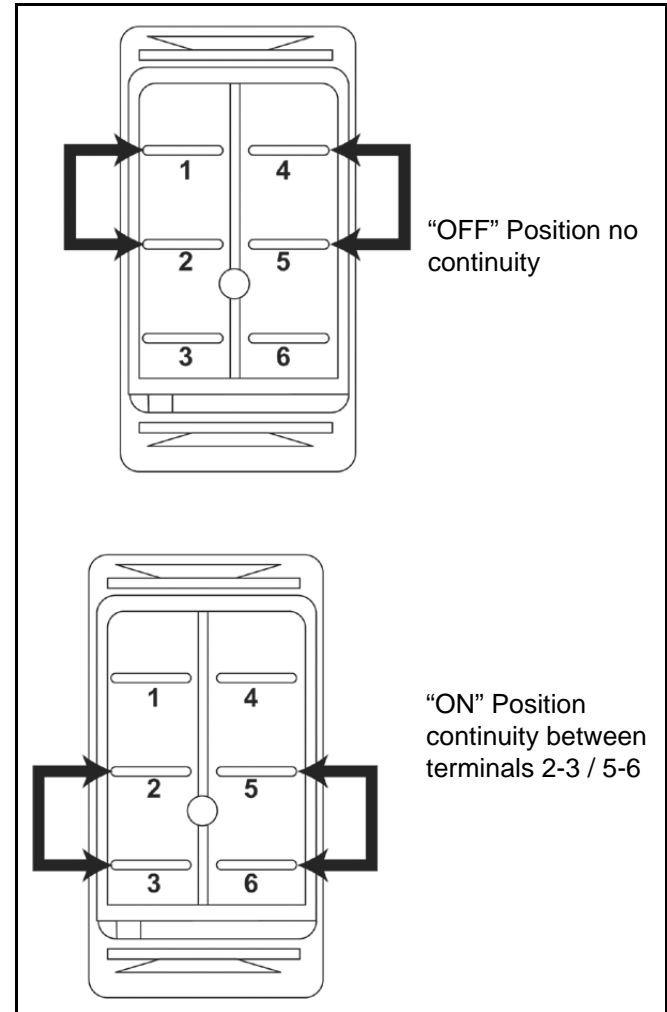

Figure 34
2. Using a VOM or test lamp, test the continuity of the terminals, using the diagrams below (Figure 34).